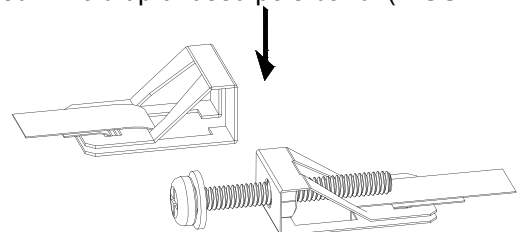

FIGURE 46
(3) Measure the required length of pole band to be used. Fold up unused pole band. (FIGURE 46)